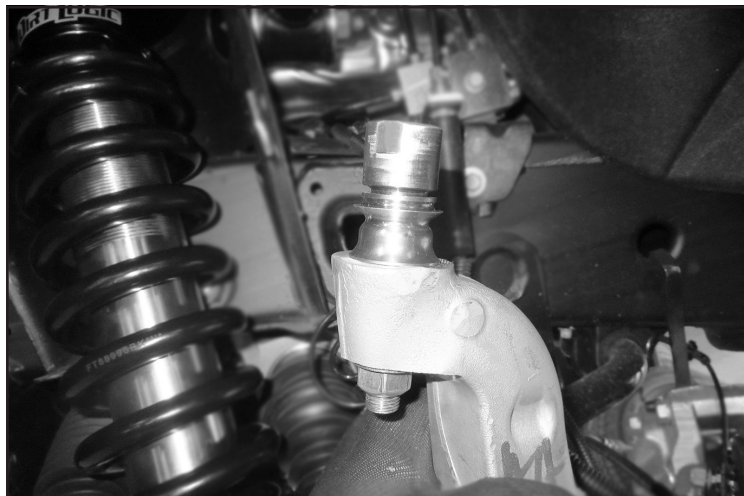

FIGURE 5 - STEP 9
9. Install FT90153 (Lower misalignment) onto FT94535 (Uniball Pin). Then, install into the factory control arm using the supplied 9/16" nut and washer. Torque the nut to 135 ft-lbs. **SEE FIGURE 5**